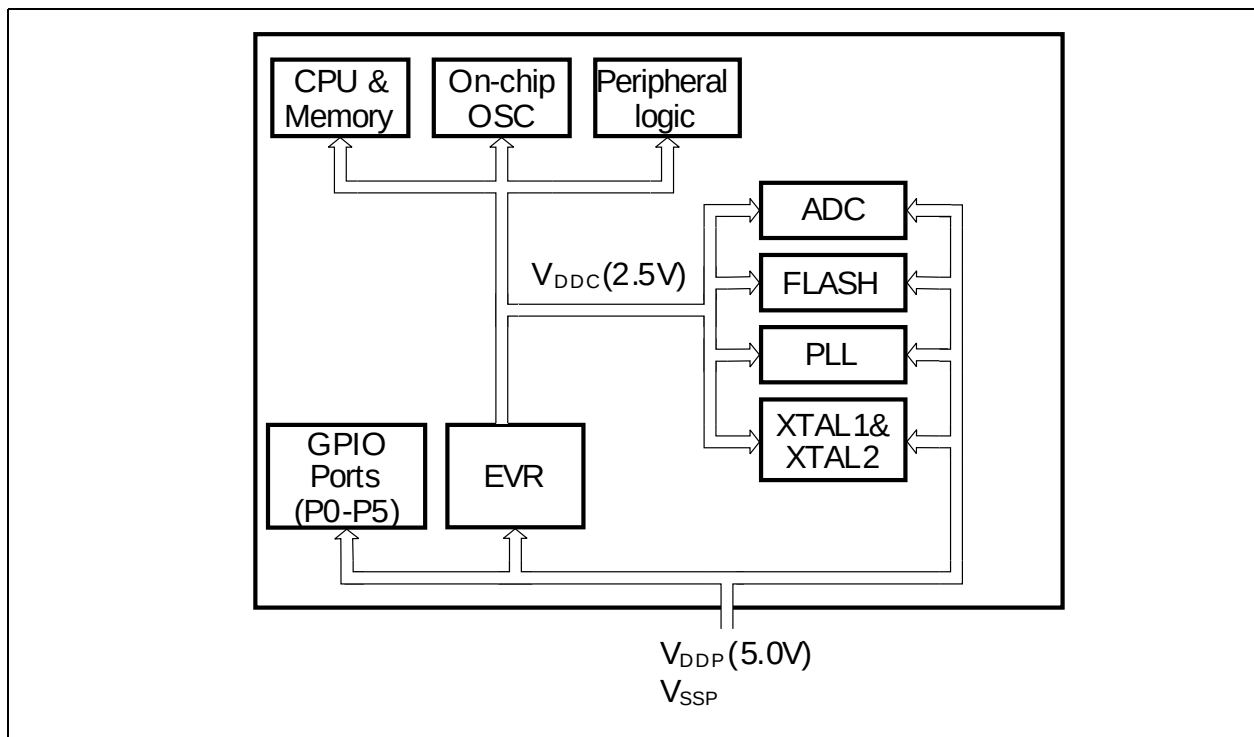

**Figure 20 SAL-XC886 Power Supply System**
**Figure 20** shows the SAL-XC886 power supply system. A power supply of 5.0 V must be provided from the external power supply pin. The 2.5 V power supply for the logic is generated by the EVR. The EVR helps to reduce the power consumption of the whole chip and the complexity of the application board design.